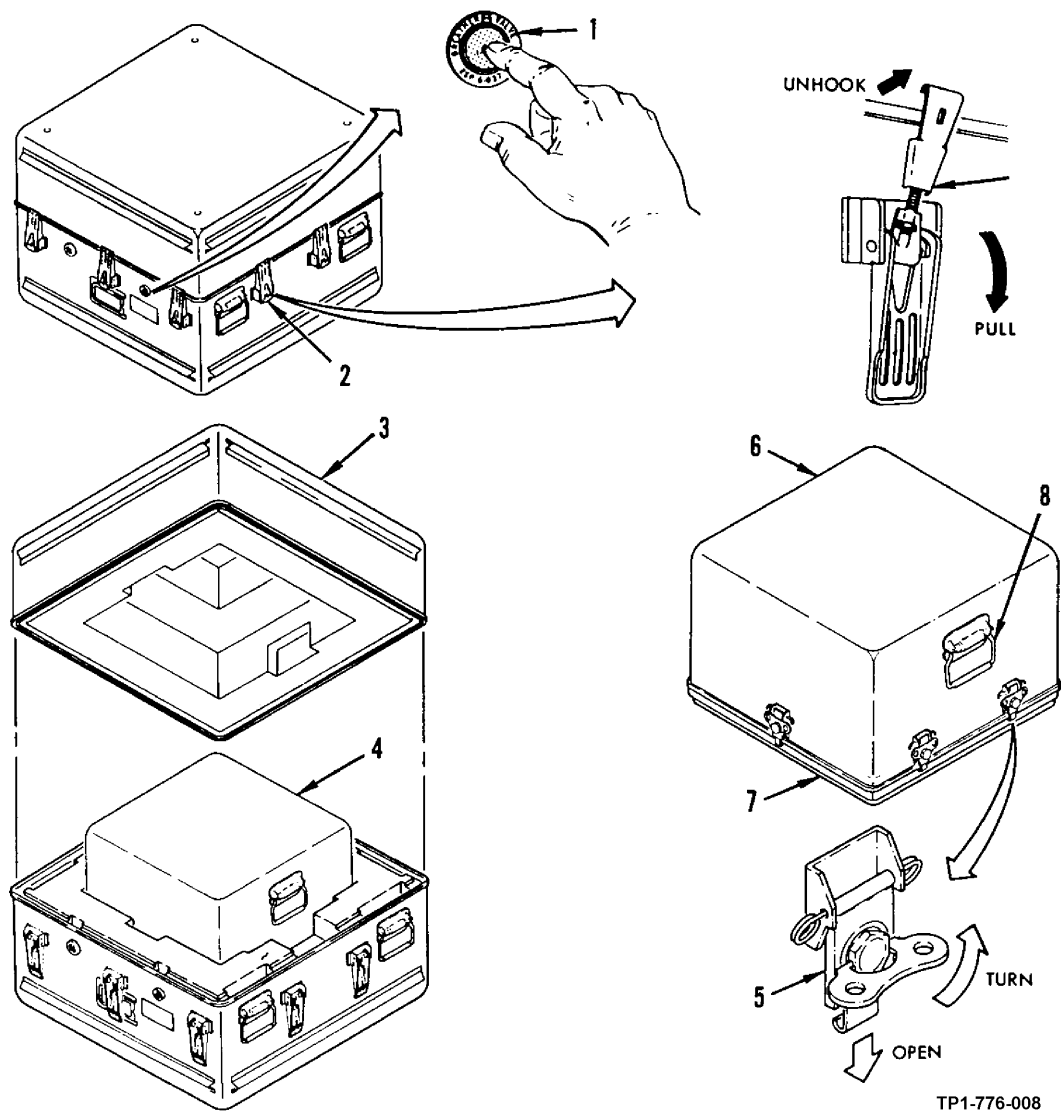

Figure 4-7. Inner Case Removal from Shipping and Storage Container
- (1) Remove inner case assembly from shipping and storage container as follows.
- (a) Press pressure relief (1, figure 4-7) on container.
- (b) Release and unhook container latches (2).
- (c) Remove container cover (3) and set aside on clean dry surface.
- (d) Remove case assembly (4) from container and place on workbench.
- (2) Release and disengage latches (5) securing case assembly (6) to base assembly (7).
- (3) Grasp handles (8) and lift case assembly clear of base assembly. Place case assembly on clean dry surface.